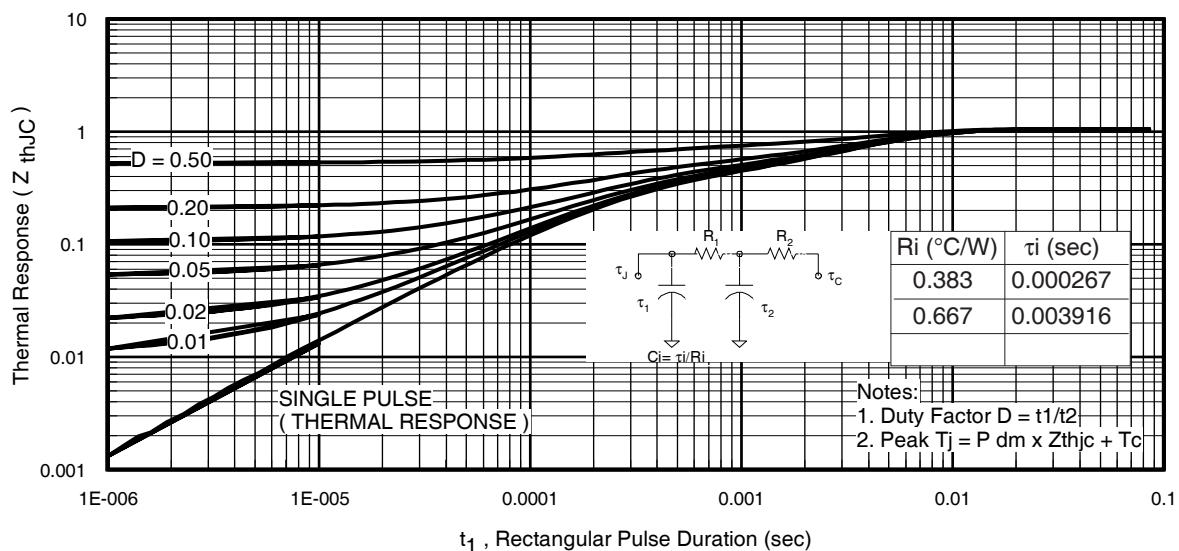
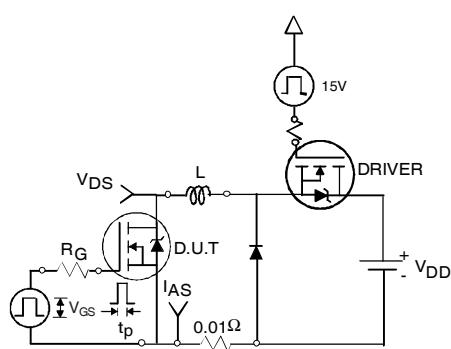

Fig 11. Maximum Effective Transient Thermal Impedance, Junction-to-Case
Fig 12a. Unclamped Inductive Test Circuit
- ① Repetitive rating; pulse width limited by max. junction temperature. (See fig. 11).
- ② Limited by T_{Jmax} , starting $T_J = 25^\circ\text{C}$, $L = 0.16\text{mH}$, $R_G = 25\Omega$, $I_{\text{AS}} = 38\text{A}$, $V_{\text{GS}} = 10\text{V}$. Part not recommended for use above this value.
- ③ Pulse width $\leq 1.0\text{ms}$; duty cycle $\leq 2\%$.
- ④ $C_{\text{oss eff.}}$ is a fixed capacitance that gives the same charging time as C_{oss} while V_{DS} is rising from 0 to 80% V_{DSS} .
- ⑤ Limited by T_{Jmax} , see Fig.12a, 12b, 15, 16 for typical repetitive avalanche performance.
- ⑥ This value determined from sample failure population. 100% tested to this value in production.
- ⑦ When mounted on 1" square PCB (FR-4 or G-10 Material).
- ⑧ R_θ is measured at T_J approximately 90°C .
- ⑨ Calculated continuous current based on maximum allowable junction temperature. Bond wire current limit is 42A. Note that current limitations arising from heating of the device leads may occur with some lead mounting arrangements.
3. Equation below based on circuit and waveforms shown in Figures 12a, 12b.
$Z_{thJC}(D, t_{av})$ = Transient thermal resistance, see figure 11)